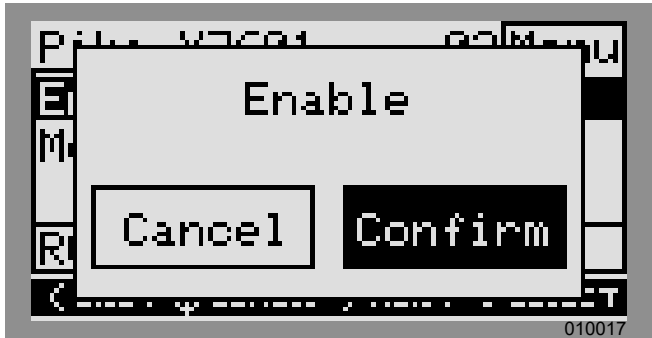

Figure 6-8. Enabling Inverter (3 of 4)
- See Figure 6-8. Arrow right and press center button to Confirm.